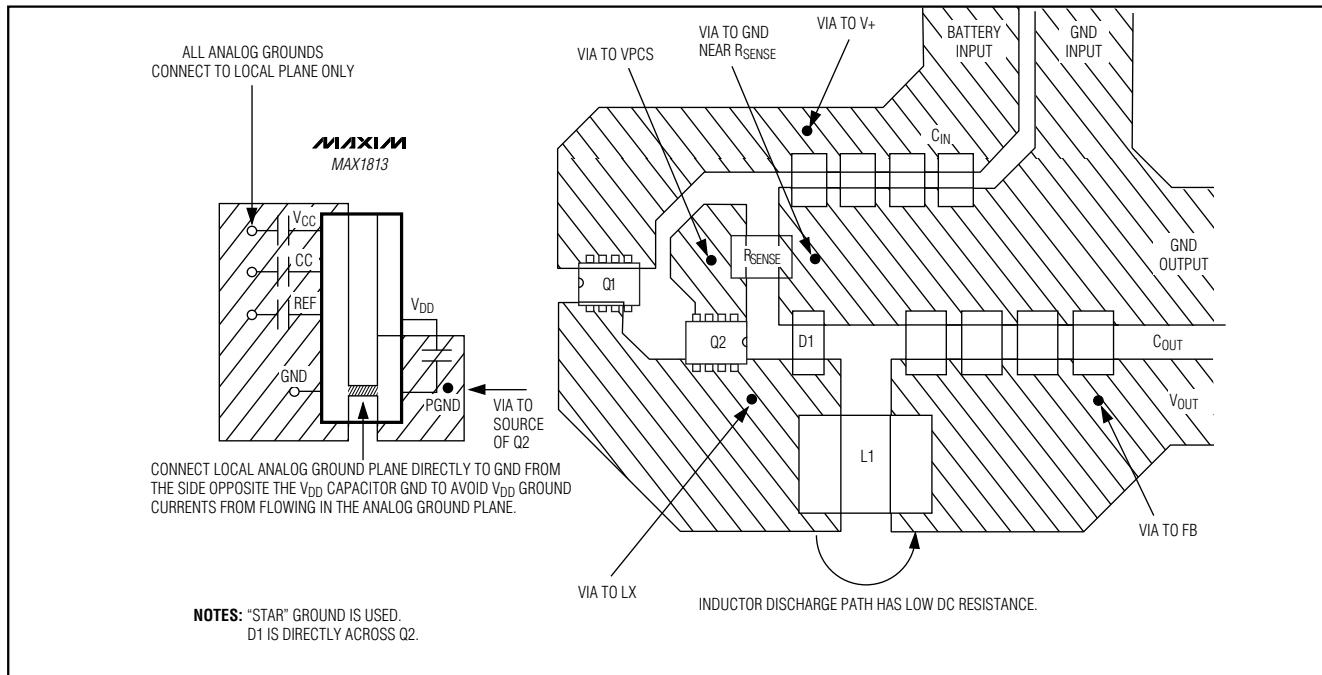

Figure 19. Power-Stage PC Board Layout Example
Careful PC board layout is critical to achieve low switching losses and clean, stable operation. The switching power stage requires particular attention (Figure 19). If possible, mount all of the power components on the top side of the board, with their ground terminals flush against one another. Follow these guidelines for good PC board layout:
- 4) Make the DC-DC controller ground connections as shown in Figure 19. This diagram can be viewed as having three separate ground planes: output ground, where all the high-power components go; the power ground plane, where the $PGND$ pin and V_{DD} bypass capacitor go; and an analog ground